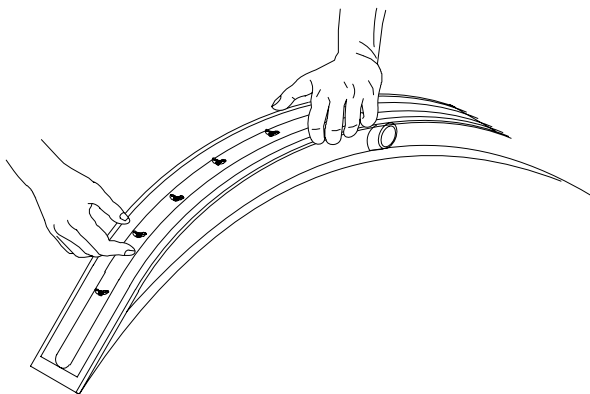

FIG. 8.
**IMPORTANT: Proper blade installation is critical to maximize water pick up. Make sure blades are straight. Do not over tighten bolts, as this will cause the blades to wrinkle (Figure 8).**